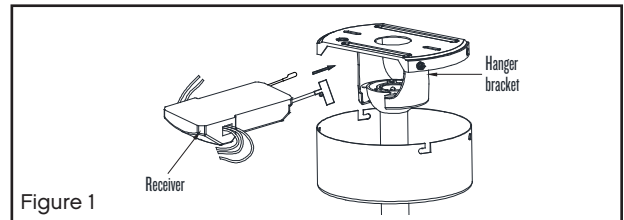

Figure 1
- 1 Remove hanger ball from downrod by loosening set screw in the side of the hanger ball. Slide hanger ball down and remove cross pin. (Fig. 1)
- 1 Insert the receiver into the ceiling mounting bracket with the flat side of the receiver facing the ceiling. (Fig. 1) For best performance, make sure the black antenna and WiFi antenna, on the end of the receiver, remains extended and not tangled with any of the electrical wires. Place the WiFi antenna on the outside of the canopy and stick/fix it on the ceiling.
- 1 Select a desired location. Use the wall plate to mark the location of the mounting holes. Plastic wall anchors or mounting screws are needed for this application. (Fig. 1)
Remove the panel from the transmitter and then install one 2032 battery (included). You need to use a coin to open or close the battery cover. To prevent damage to transmitter, remove the battery if not use for long periods of time (Fig. 1)